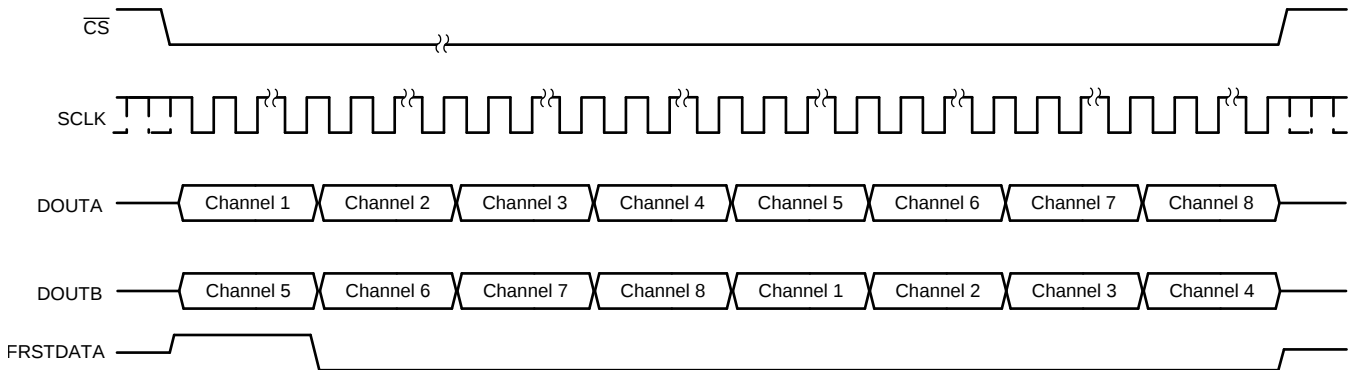

Figure 69. Data Read Back in the Serial Interface Using Either DOUTA or DOUTB Timing Diagram
- The conversion data can be read out of the device using only one of the two serial output lines, DOUTA or DOUTB. In this case, using DOUTA for output data read back is recommended because channel 1 data appear first on DOUTA followed by the data for other channels in ascending order. To read the data for all channels, provide a total of $14 \times 8 = 112$ SCLK cycles for the ADS8578S. This entire data frame can be created within a single $\overline{CS}$ pulse or each group of 14 SCLK cycles can be individually framed by the $\overline{CS}$ signal. The primary disadvantage of using just one data line for reading conversion data is that the throughput is reduced if a data read operation is performed after conversion. Figure 69 illustrates this operation.
- Alternatively, only DOUTB can be used for reading the conversion data from all channels. In this case, everything else remains the same and the output bit stream contains data for all channels in the following order: channels 5, 6, 7, 8, 1, 2, 3, and 4 for the ADS8578S. Figure 69 illustrates this operation.